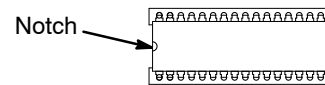

Fig. 16
- Locate the software chips that need to be changed in the control modules. See Fig. 19. Note the chips' location and orientation; there is a slight notch in one end of the chips to orientate them. See Fig. 16.